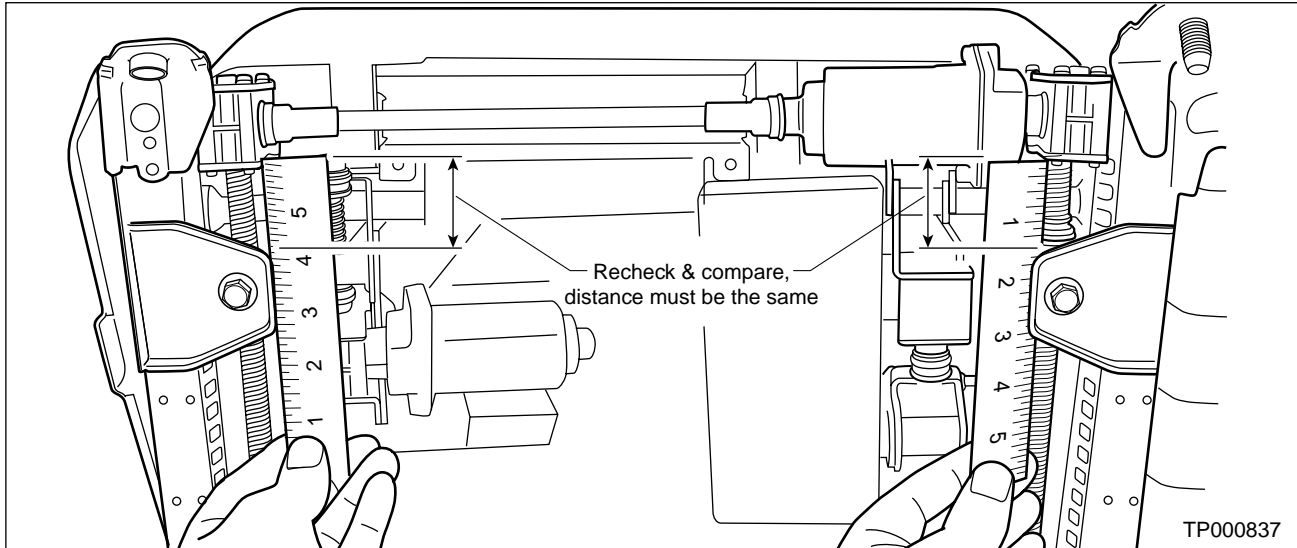

Figure 11
23. Check the gear case to mounting tab distance again. Make sure they have not moved (see figure 11). If N/G, adjust.